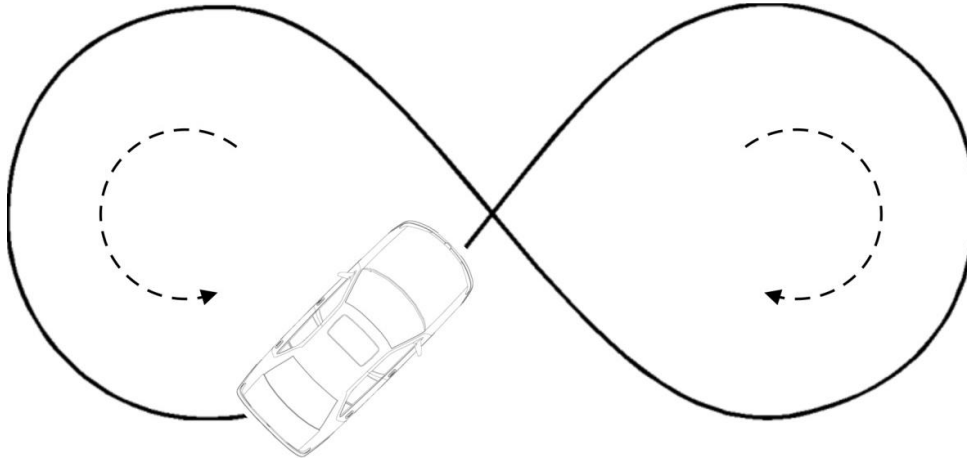

Figure 8: Driving number 8 patterns with fast left and right turns
-  Although the initialization and calibration process will complete eventually, the sequence below (illustrated in Figure 8) can be used to achieve more rapid calibration for the purposes of evaluation.
- **Phase II.** Start driving a figure-8 pattern (see Figure 8).